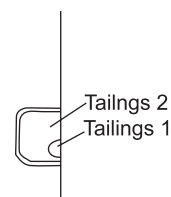

Figure 4
1. When routing the piping or wiring from the left or right side of the indoor unit, cut off the tailings from the chassis in necessary (Shown in figure 4)